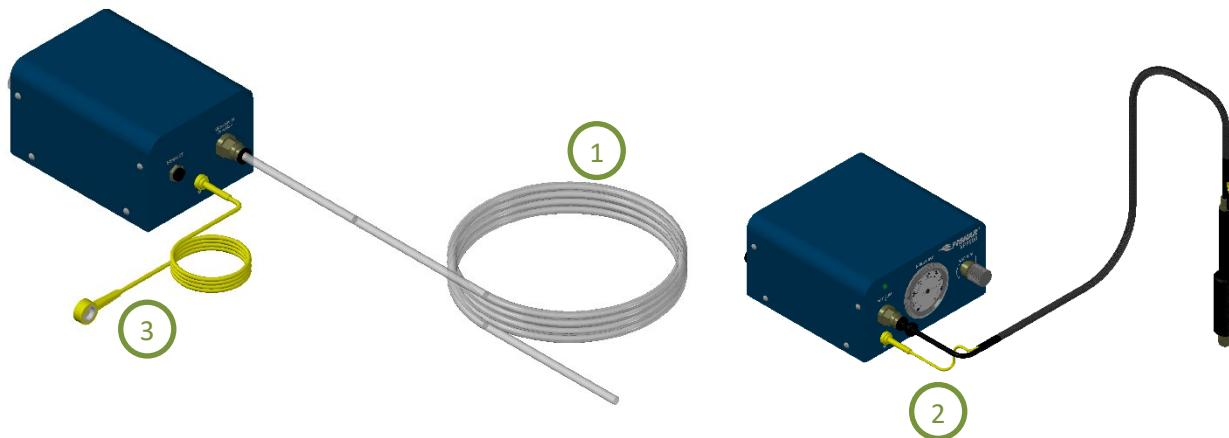

FIG. 4: Machine Setup
1.	Connect air hose (1) from compressed air 70-100 psi (5-7 bar) to the air inlet port on the back of the machine. See FIG. 4.
2.	Insert the air connector and ESD grounding plug (2) from the vacuum pickup pen to the ports on the front of the machine. See FIG. 4. If using optional vacuum pickup pen (#580046) only the air connector will need to be attached to the port on the front of the machine.
3.	Insert the ESD grounding cable (3) into the port on the back of the machine. The other end of the cable is to be connected to a suitable common ESD Safe grounding point within the workplace environment. See FIG. 4. If there is no requirement for the machine to be used in an ESD Safe work environment, this step can be ignored.